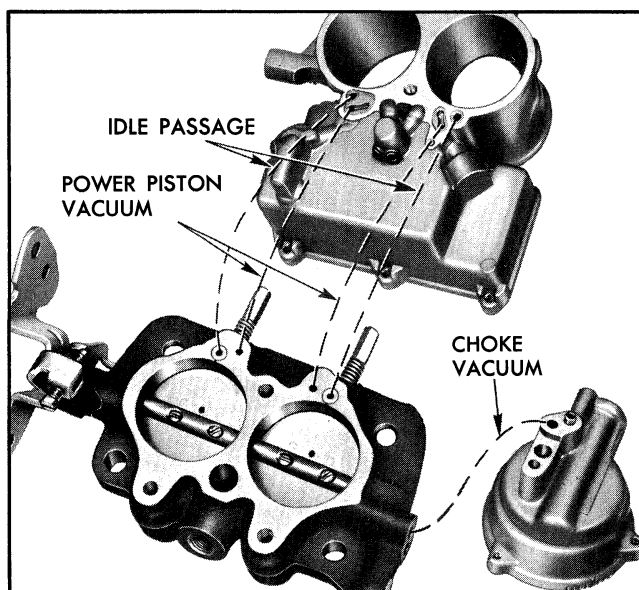

Fig. 6B-53 Passage Identification -
2. Blow all passages in castings (Figs. 6B-51 through 6B-55) dry with compressed air and blow off all parts until they are dry.